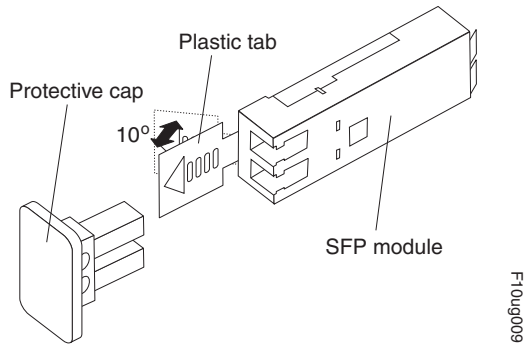

Figure 121. Unlocking the SFP module latch - plastic variety
- For SFP modules that contain plastic tabs, unlock the SFP module latch by pulling the plastic tab outward 10°, as shown in Figure 121 on page 196.